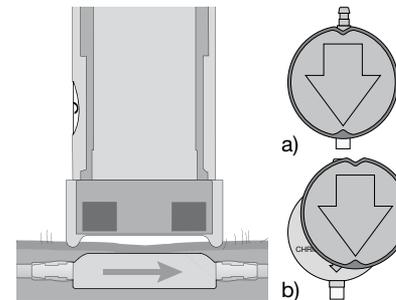

Fig. 15: Measuring the pressure setting a) correctly, b) incorrectly
2. The *proGAV VERIFICATION TOOL* is positioned centrally on the valve. The marking on the instrument has to point towards the proximal catheter (leading to the ventricle). The button is pushed and the pressure setting is read (fig. 15).